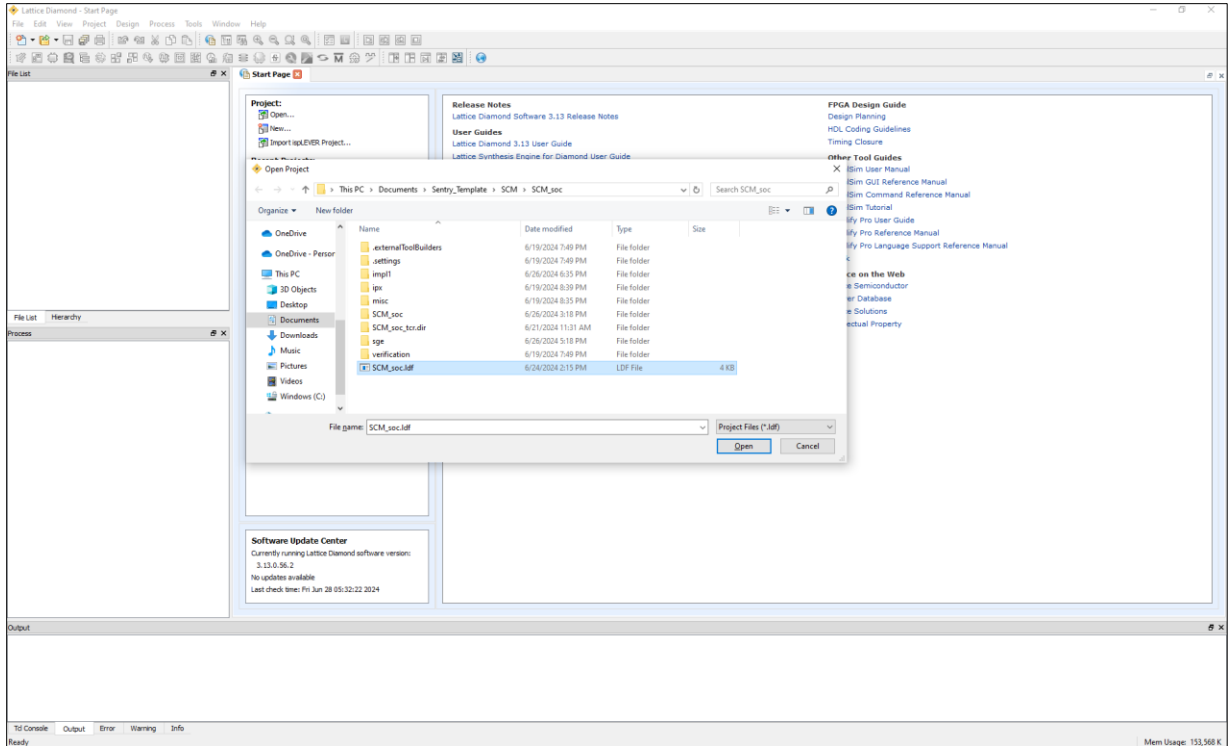

Figure 5.5. Open SCM_soc in Lattice Diamond Software
1. Open the SCM_soc project file (SCM_soc.lcf) in the Lattice Diamond software (Figure 5.5).